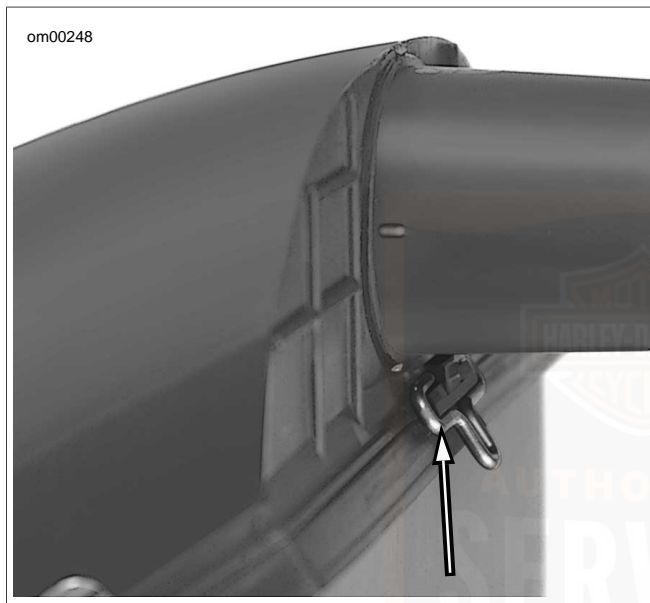

Figure 45. Front Airbox Clip
10. See Figure 45. The front clip under the snorkel is attached to the airbox top. Fasten the clip over the lip on the airbox bottom.